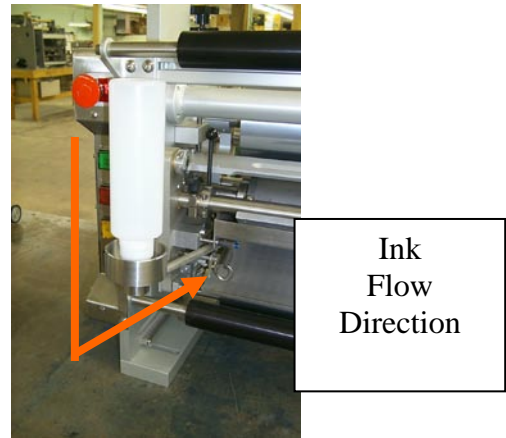

Figure D2: Ink Cartridge
2. Verify that ink is flowing properly from the Inkwell bottle cartridge (See Figure D2).